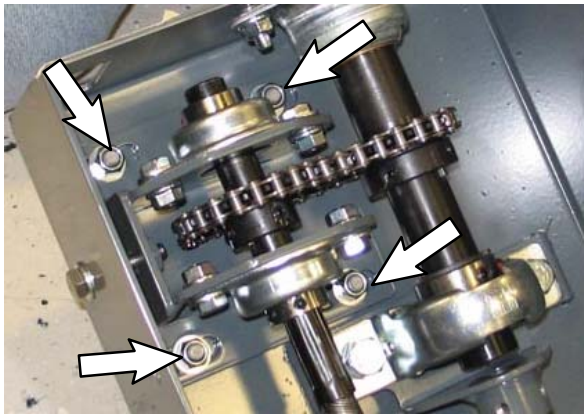

FIG. 36
32. Loosen the hardware securing the support plate weldment / flange bearings to the steering channel. (Fig. 36)